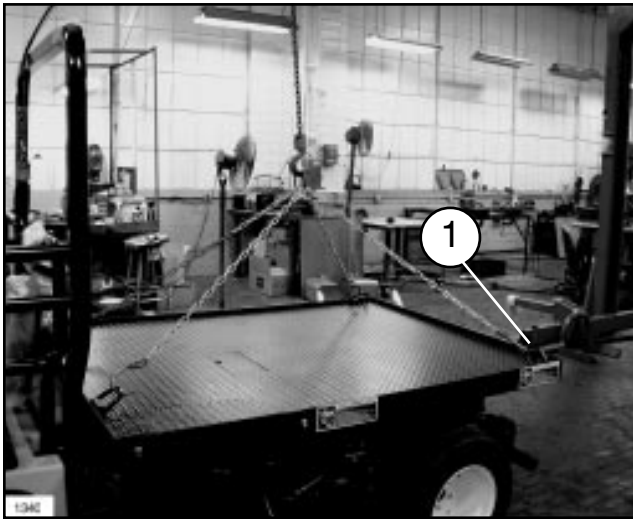

FIG. 3
4. DO NOT OVERLOAD THE VEHICLE. Never exceed maximum Operator and Pay Load Capacity of 1800 lb and maximum Gross Vehicle Weight of 4000 lb. Failure to position loads carefully can result in their shifting or tipping over. Distribute loads evenly, as low as possible, with center of gravity forward of rear axle. Secure load using Lifting Lugs (Figure 3).
H. Lift the cargo bed from four corners evenly from the vehicle's frame, using Lifting Lugs as shown in Figure 3, and set aside.